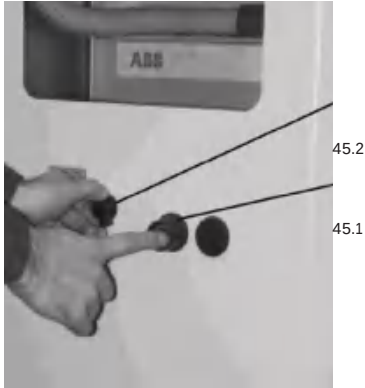

Figure 68 Handling of the mechanical circuit - breaker operation in the switchgear panel door with the withdrawable part in the service position
- Move the sliding handles inwards against the springs to release the withdrawable part. Draw the withdrawable part out onto the service truck and secure it in the catches on the truck (Fig. 68)